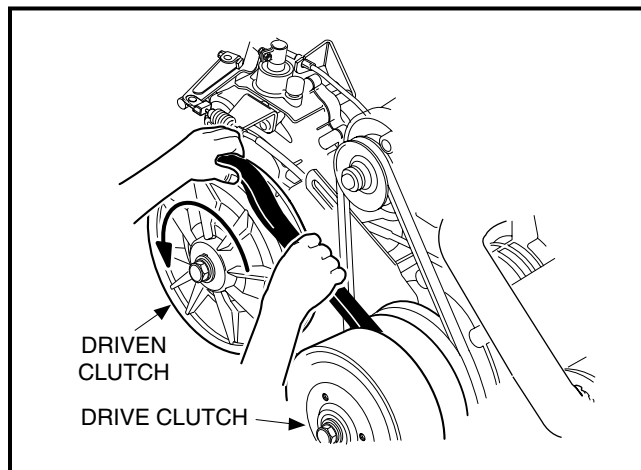

Figure 17-2 Drive Belt Removal
7. Grasp the belt midway between the drive and driven clutches. Lift upward on the belt to force the sheaves of the driven clutch apart, then roll the belt off the driven clutch by rotating the clutch counterclockwise (**Figure 17-2, Page 17-4**). **See following CAUTION.**